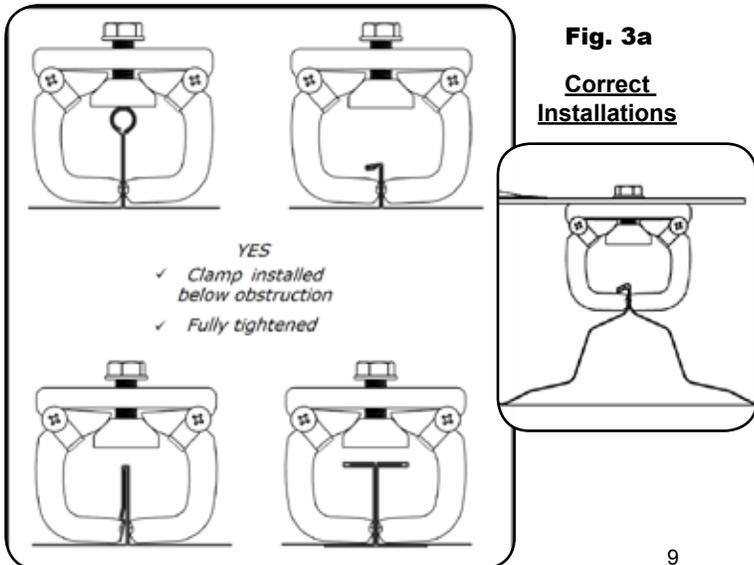

Fig. 3a
2. Place base with open clamp assemblies over the standing seams and proceed with closing and tightening clamp assemblies. Clamp assemblies are designed to self-center for proper alignment. Standing seam roofs differ, but in all cases the clamps must close below the seam obstruction to ensure that they are properly secured and will not slip (see Fig. 3a). Torque clamp assemblies to 20ft.lbs., alternating bolts until all bolts have achieved the correct torque value. *Note: Once the first bolt has reached 20ft. lbs., do not tighten the other three bolts more than three times each.*
2. Place base with open clamp assemblies over the standing seams and proceed with closing and tightening clamp assemblies. Clamp assemblies are designed to self-center for proper alignment. Standing seam roofs differ, but in all cases the clamps must close below the seam obstruction to ensure that they are properly secured and will not slip (see Fig. 3a). Torque clamp assemblies to 20ft.lbs., alternating bolts until all bolts have achieved the correct torque value. *Note: Once the first bolt has reached 20ft.lbs., do not tighten the other three bolts more than three times each.*
5. Place base with open clamp assemblies over the standing seams and proceed with closing and tightening clamp assemblies. Clamp assemblies are designed to self-center for proper alignment. Standing seam roofs differ, but in all cases the clamps must close below the seam obstruction to ensure that they are properly secured and will not slip (see Fig. 3a). Torque clamp assemblies to 20ft. lbs., alternating bolts until all bolts have achieved the correct torque value. *Note: Once the first bolt has reached 20ft.lbs., do not tighten the other three bolts more than three times each.*